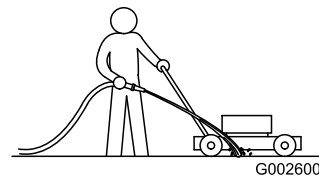

Figure 40
1. With the engine running on a flat paved surface, spray a stream of water in front of the **right** rear wheel (Figure 40).